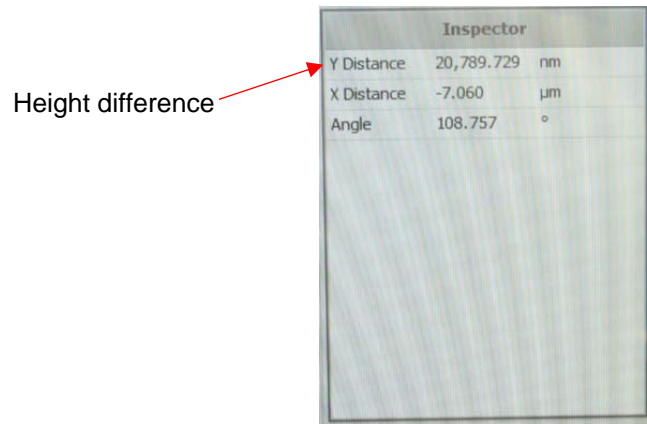

Figure 9
4. Use the mouse to move the red and blue vertical lines to measure the height difference in between the two horizontal dotted lines. The results are displayed on the right side of this profile as shown in Figure 9.